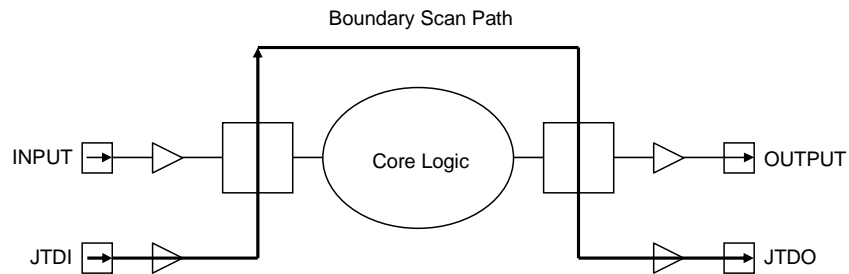

Figure 14.4.3 Test Data Flow While PRELOAD is Selected
- PRELOAD allows the Boundary-scan register to be initialized before another instruction is selected. For example, prior to selection of the EXTEST instruction, initialization data is shifted into the Boundary-scan register using PRELOAD as described in the previous subsection. PRELOAD permits shifting of the Boundary-scan register without interfering with the normal operation of the system logic. The flow of data for the PRELOAD phase of the SAMPLE/PRELOAD instruction is shown in Figure 14.4.3.